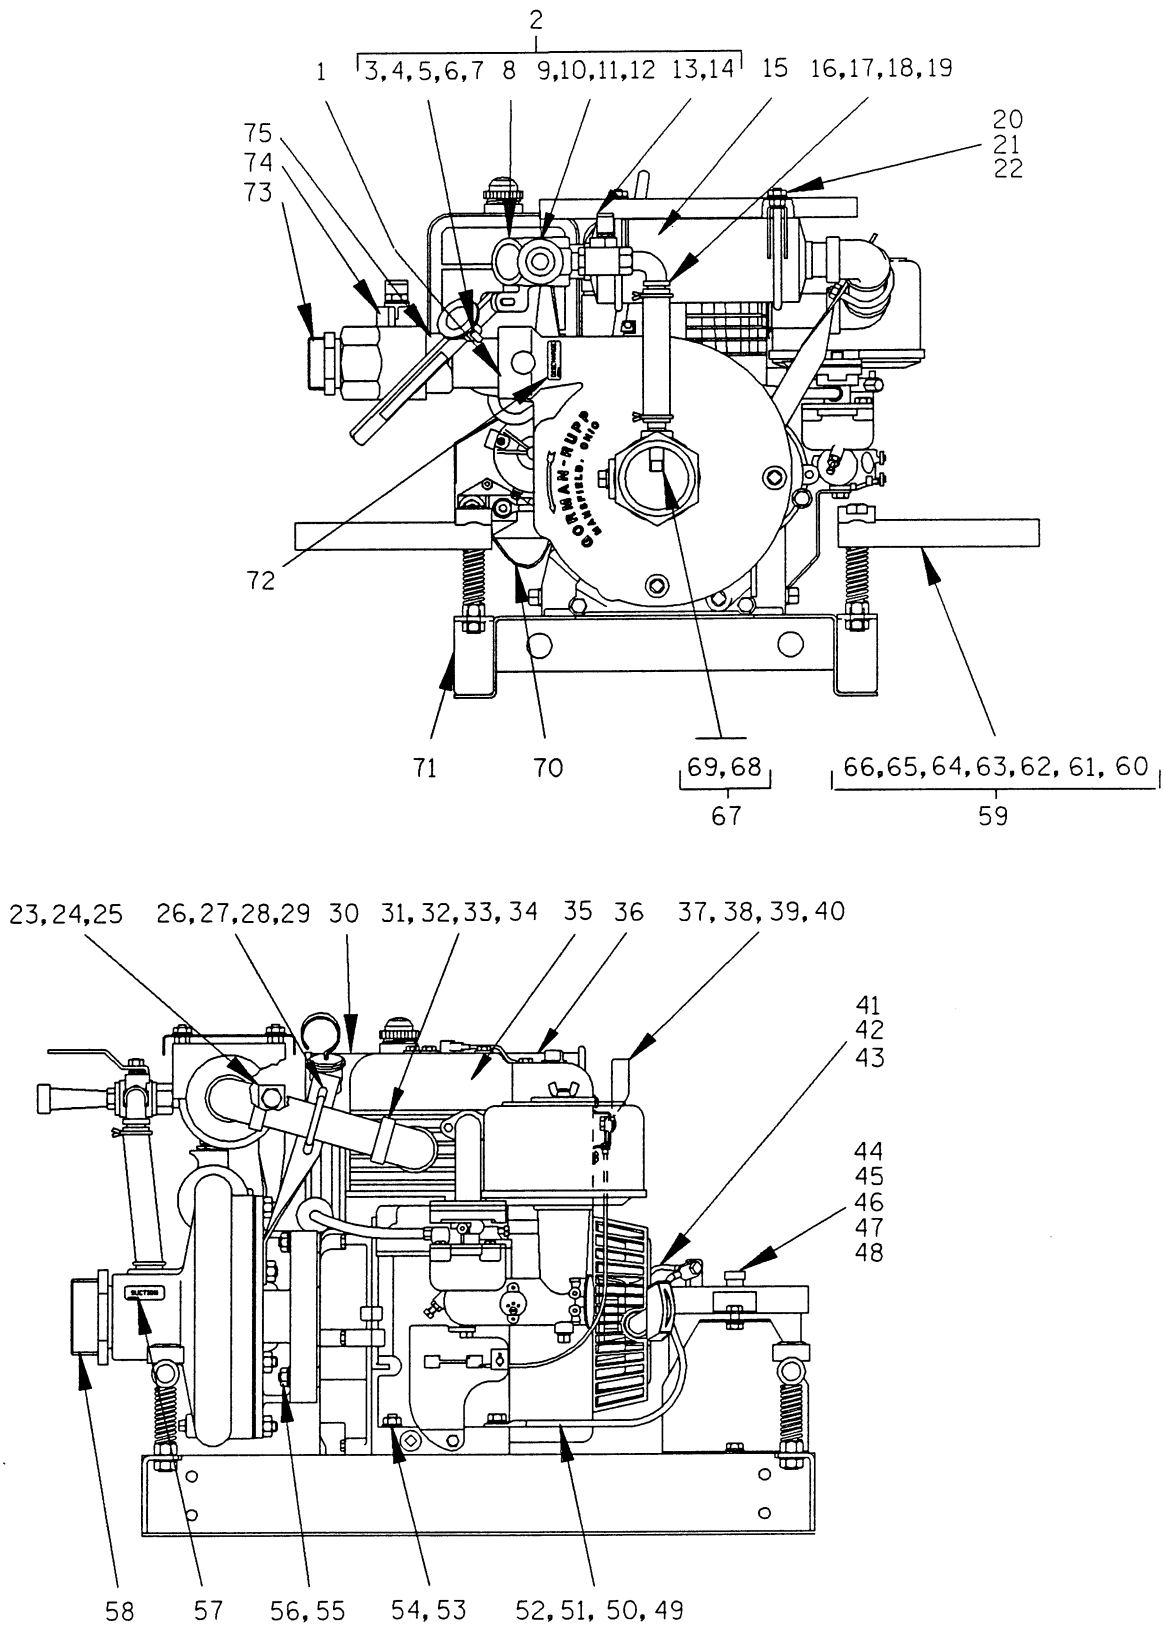

Figure 2. Pump Model 61 1/2A1-22 S/G
nipple assembly (56, Figure 1 or 67, Figure 2). If necessary, remove the gas cock valve (13) and pipe nipple assembly (56, Figure 1 or 67, Figure 2).
An alternate method of removing the stationary seat is to remove the hardware (45, Figure 1 or 56, Figure 2) and separate the intermediate (6) from the engine. Use a dowel to press the stationary seat and O-ring from the intermediate.